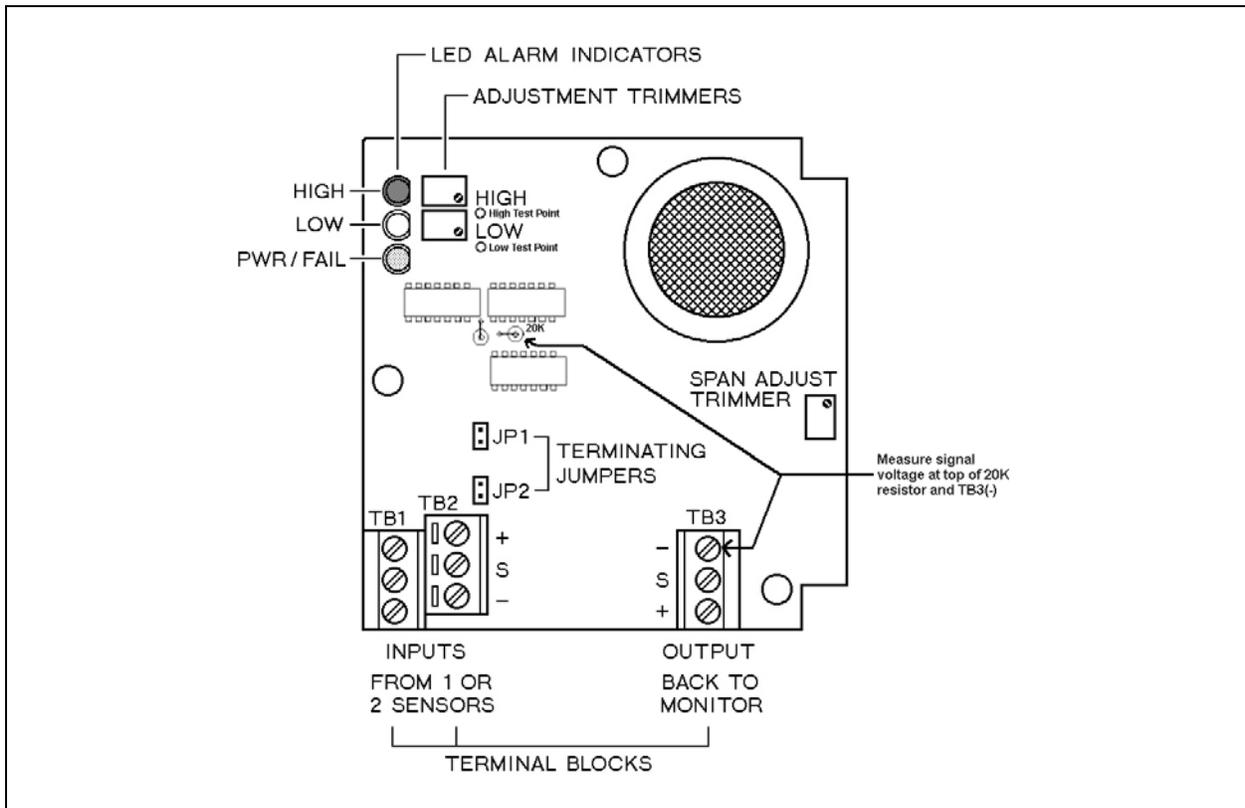

FIGURE 4: Span and alarm adjustment.
1. Signal is measured from TB3 (-) to 20K resistor (see Figure 4 for location).
Alarm Adjustment can be made with the corresponding High or Low Trimmer. Adjust the corresponding Alarm Voltage to the appropriate fraction of full-scale gas concentration. Alarm Voltage can be measured from TB3(-) to Low test point and high test point. (see Figure 4 for location).